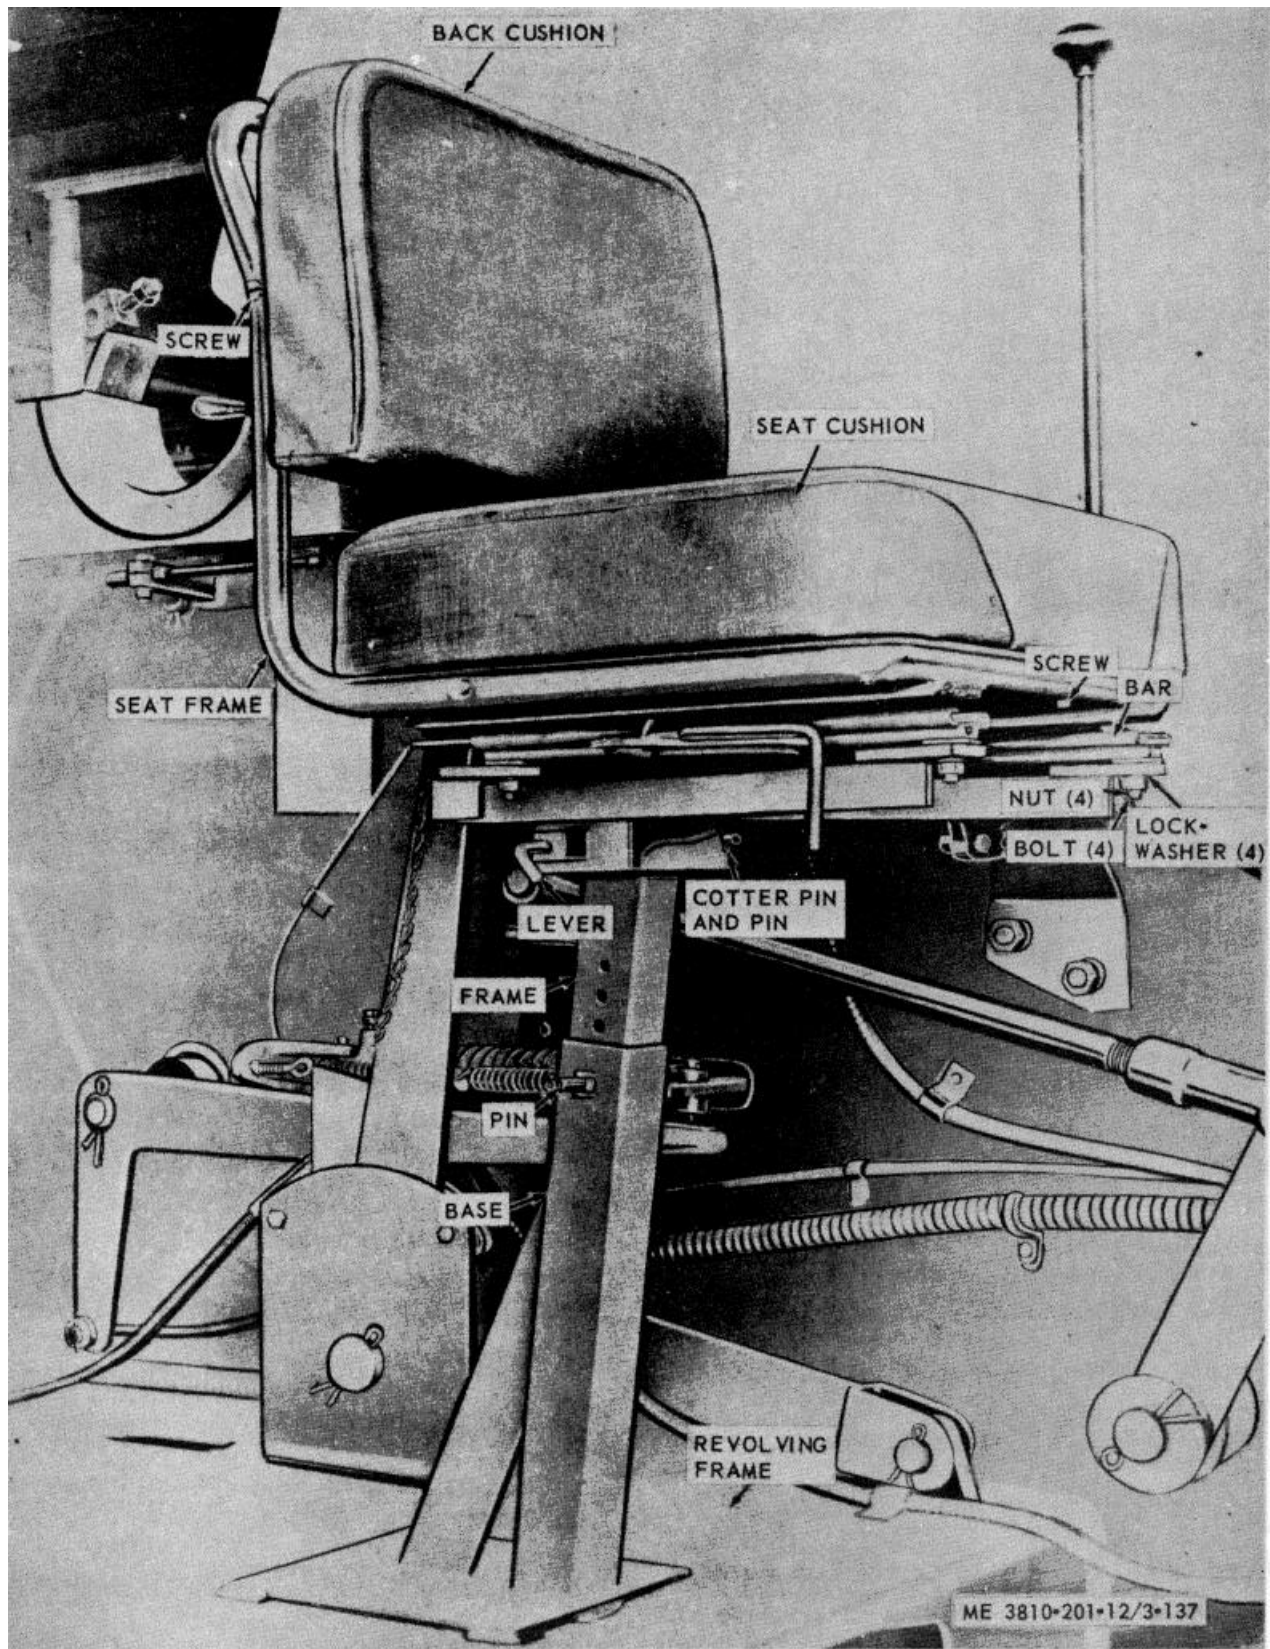

Figure 3-137. Operator's seat, removal and installation (Model 855BG-2).
(1) Refer to figure 3-137 and remove operator's seat.
(2) Install in reverse order.